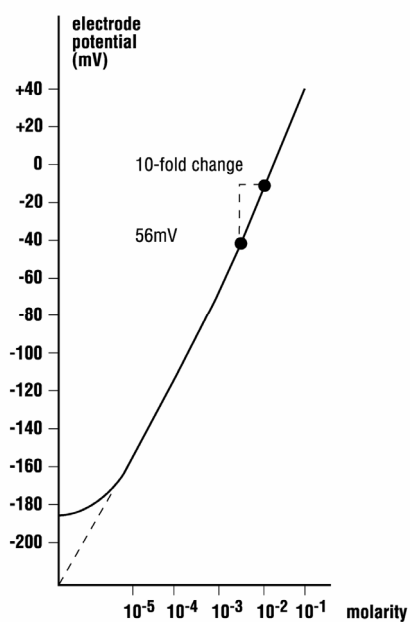

Figure 1: Typical calibration curve
6. On a semi-logarithmic graph paper, plot the voltage readings (linear axis) against the concentration (logarithmic axis). See Figure 1 below for a typical calibration curve.